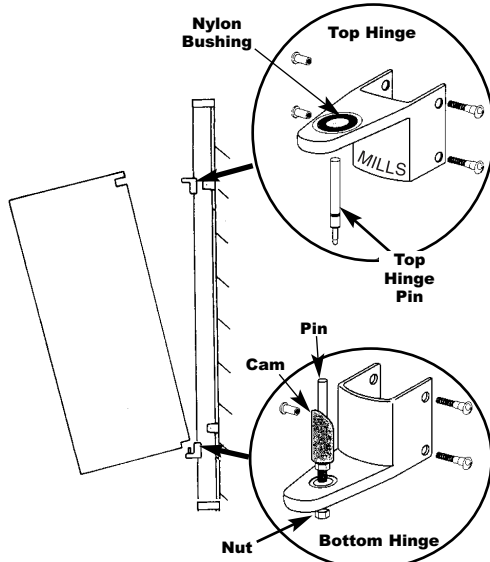

FIGURE 7
- B. Install pin thru cam to bottom hinge as shown in figure 7. Put on nut but do not tighten at this time.